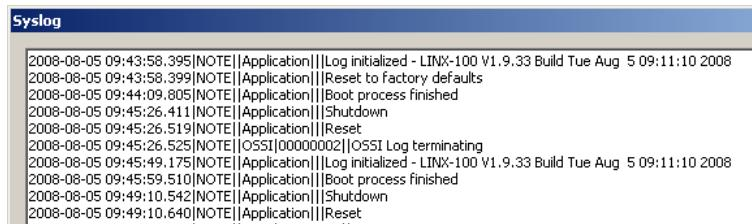

Figure 119: System log window.
3. When the upload is finished, click on **Show System Log**. The system log window appears as shown in Figure 119.